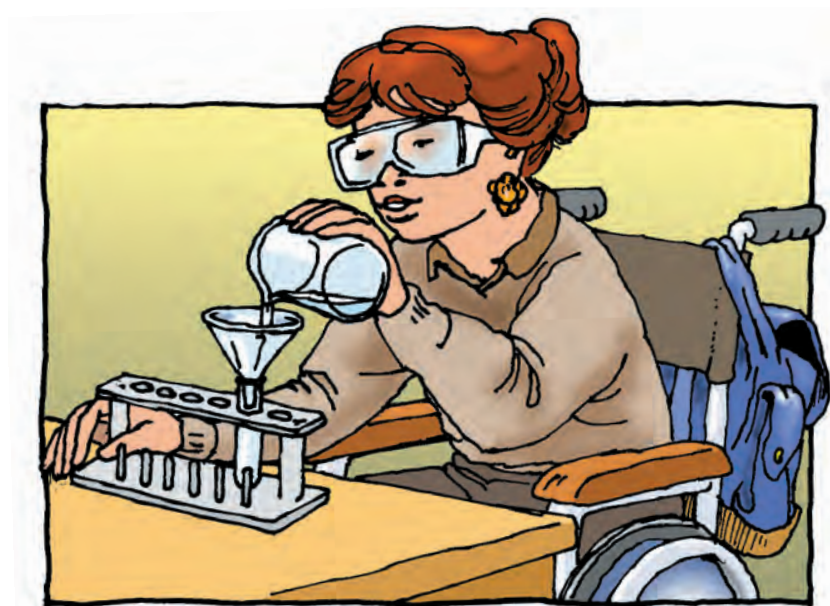

Figure 15.2 After setting up your apparatus, pour the copper (II) sulfate solution into the funnel containing the filter paper.
2. What do you think will happen to the copper(II) sulfate solution if you pour it into the funnel? Record your prediction in Table 1 on Student Sheet 15.1.
3. Place a test tube in the test tube rack. Place the funnel with the filter paper into the test tube (see Figure 15.2).
9. Use the plastic containers provided to dispose of the copper (II) sulfate solution and the zinc oxide solution. Place your used filter papers in the trash can. Rinse the apparatus and return it to the plastic box.